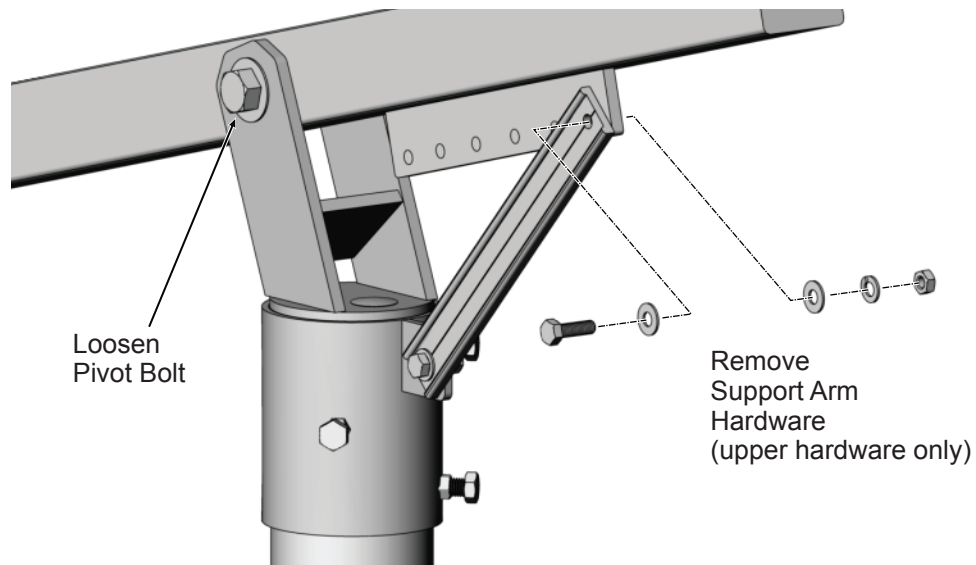

Figure 10-1: Preparing to Adjust the Tilt Angle
- While one person holds the south edge of rack, the other loosens the Pivot Bolt and removes the upper 3/8" hardware attaching the Support Bar to the Strongback. (See Figure 10-1)